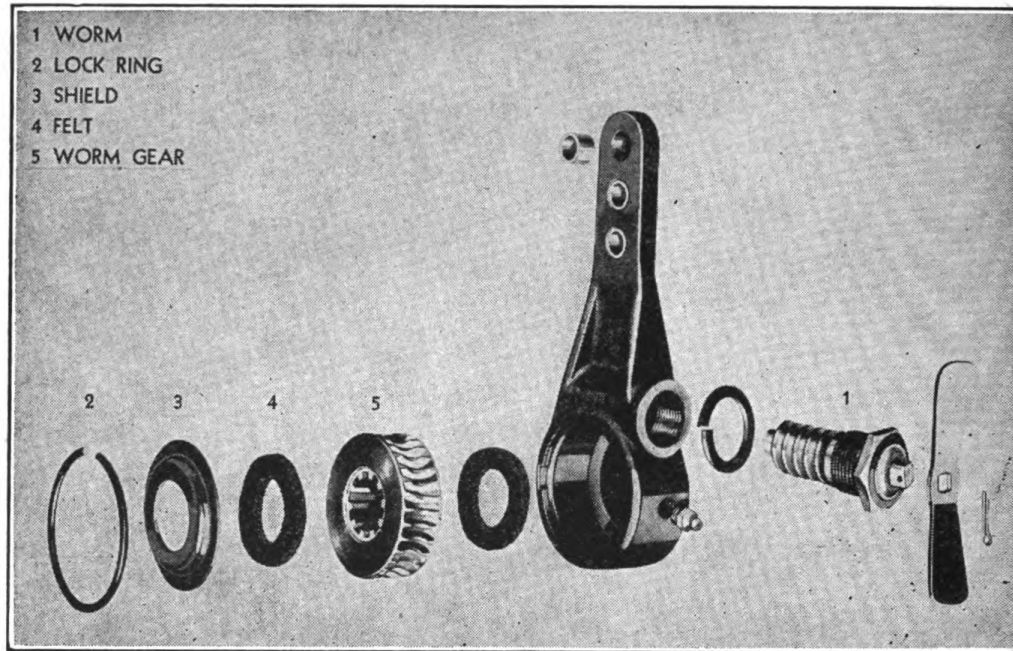

FIGURE 30. SLACK ADJUSTER—EXPLODED.
9. SERVICING SLACK ADJUSTER (Fig. 30).—*a.* If turning up on the slack adjuster wing wrench fails to bring the brake shoes up against the drum, the worm or worm gear is usually worn or stripped. To replace these parts, proceed as follows: